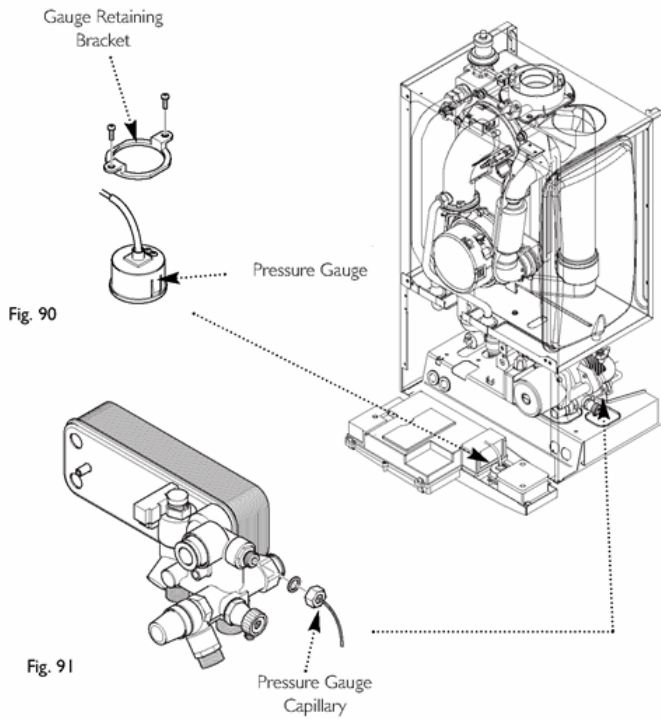

Fig. 90 & Fig. 91
**14.15 Pressure Gauge (Figs. 90 & 91)**